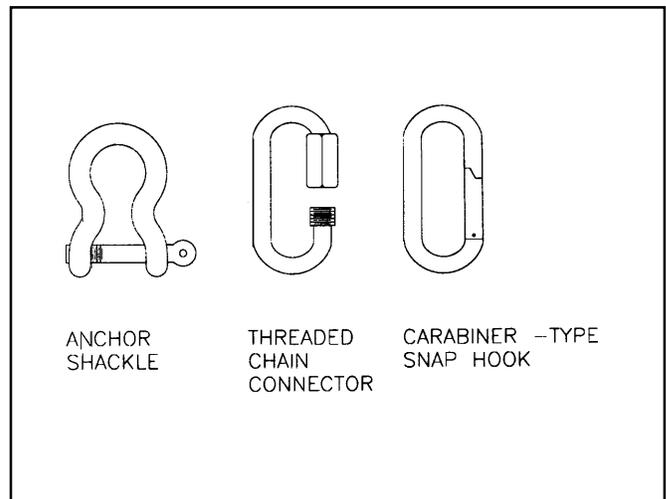

Figure 3. Examples of Useful Rigging Hardware
3. Use certified hardware rated for overhead lifting to suspend the speaker (see Figure 3).